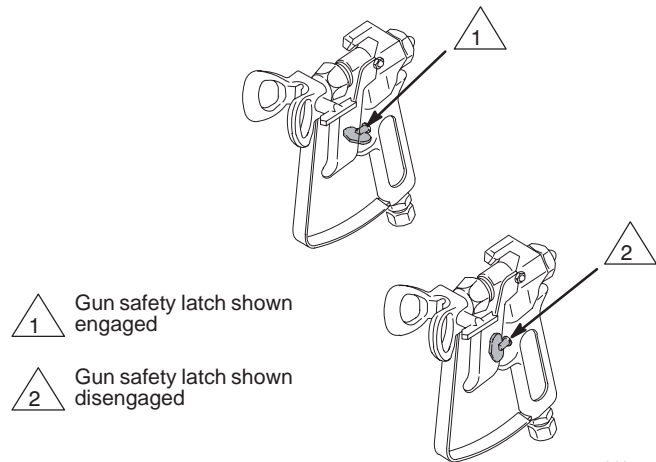

Fig. 4
- f. **Open the choke (H) as soon as the engine starts.** In cold weather, leave the choke closed for 10 to 30 seconds before opening it to keep the engine running.
8. **Disengage the gun safety latch.** See Fig. 4.